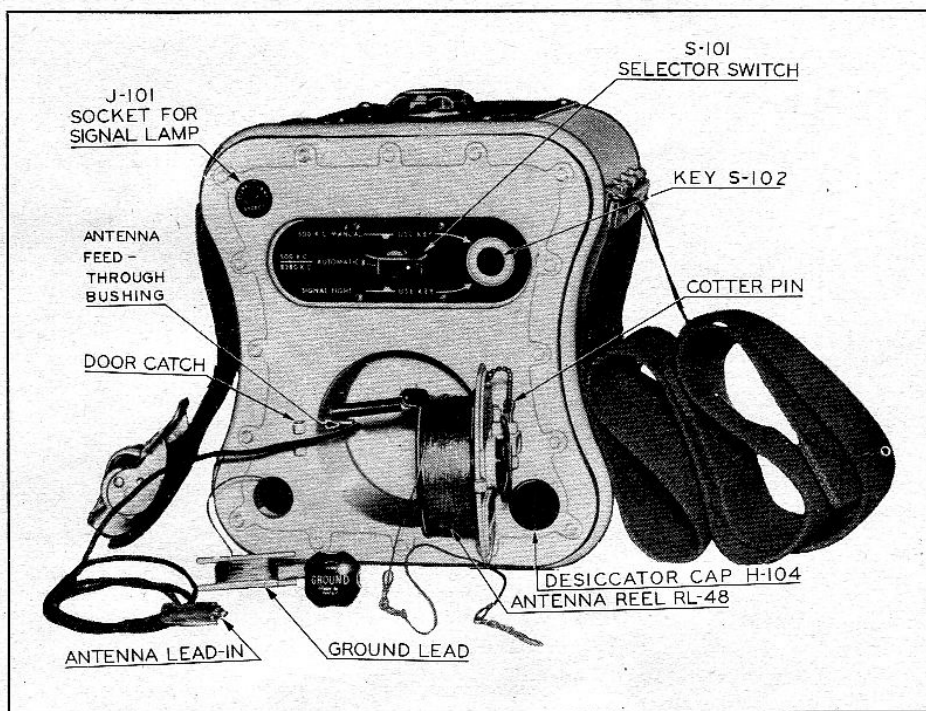
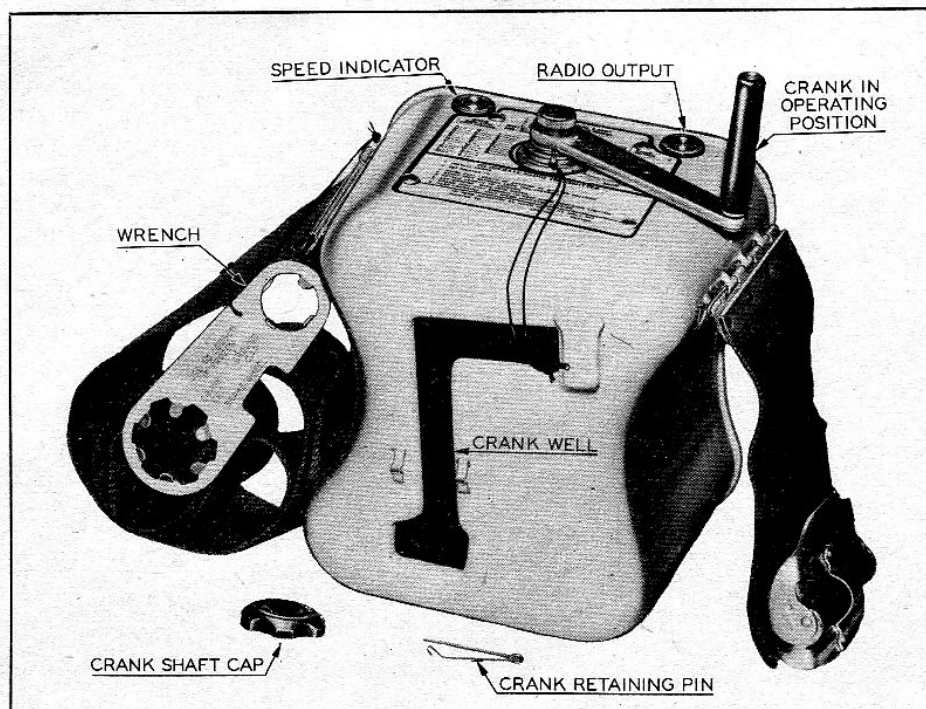

Figure 2-1. Radio Transmitter T-74/CRT-3—Front View
Figure 2-2. Radio Transmitter T-74/CRT-3—Rear View
*b.* Remove the cotter pin and open the door on the front panel of the transmitter. (See fig. 2-1.) Keep the door open by sliding the cotter pin into the holes provided on the door hinges. Take enough slack wire from the reel fastened to the back of this door to reach the kite or the balloon. Rotate the "BRAKE" knob clockwise to maintain a slight tension on the reel. Use the wrench attached to the belt to loosen the brake if it cannot be turned by hand: (See fig. 2-2.)
*c.* Unscrew the cap marked "GROUND" and remove the groundwire reel. (See fig. 2-1.) If necessary, use the wrench attached to the transmitter to loosen the cap. Unwind the wire and play it out into the water, using the cap as a weight to keep it submerged. When replacing the cap, hand force alone is sufficient. Never use a wrench.
i. Remove the cap located at the top center of the transmitter, making the crank socket available. If necessary, use the wrench attached to the transmitter to loosen the cap. (See fig. 2-1.) In the well on the back of the transmitter is Hand Crank GC-18-A. (See fig. 1-3.) It is fastened to the case by a leash and is made available by the removal of the locking pin. The leash is long enough to enable the crank to reach the socket and must not be broken. Insert the crank into its socket and tighten the thumb screw. Save the cap, it should be replaced if the crank is removed.
(1) Set the selector switch pointer to "500 K.C.-8280 K.C.-AUTOMATIC." (See fig. 2-1.)
(2) To start transmission rotate the crank (see fig. 2-2) in a clockwise direction at approximately 80 to 100 revolutions per minute. When sufficient speed has been attained the lamp marked "SPEED INDICATOR KEEP LIGHTED" (see fig. 2-2) located on the top of the transmitter will light. Faster crank speeds are ineffective since the transmitter contains automatic voltage regulation, and undesirable since they will speed up the transmitter code characters.
(3) Continue cranking. Allow at least 20 seconds for the filaments of the vacuum tubes to heat, after which time the "RADIO OUTPUT" light should flash on and off with the keying of the transmitted signal. There are no further adjustments.
(4) In the "500 K.C.-8280 K.C.-AUTOMATIC" selector switch position, the transmitter automatically sends a signal consisting of six groups of "SOS" followed by a sustained dash of about 20 seconds duration. This occurs first on 500 kilocycles and then on 8280 kilocycles, automatically switching from one frequency to the other about every 40 or 50 seconds.